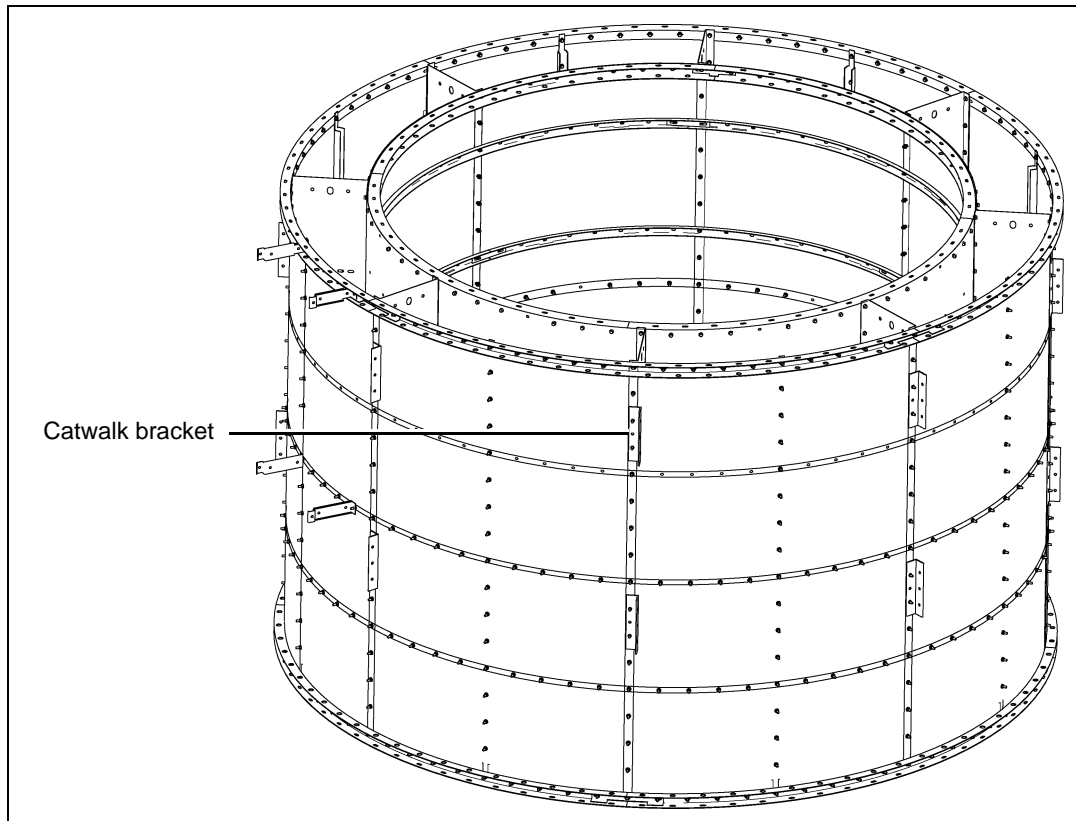

Figure 8R Attaching catwalk bracket to dryer module.
6. Attach catwalk brackets as shown in Figure 8R.